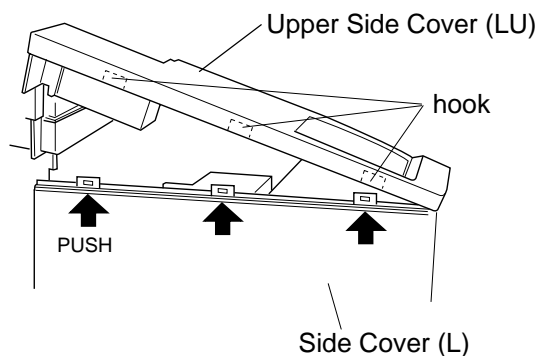

Fig.7-25
- 2) Remove the set screw BT4X8 securing the side cover (LU)
- 3) Press the exterior of the side cover inwards(L) and unlock the hooks (three locations) from the side cover (LU). (Fig.7-25)